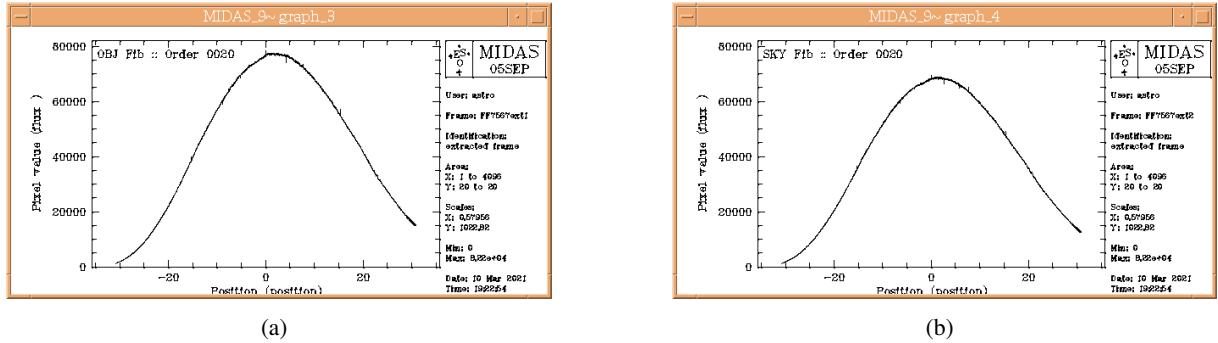

Figure 3.2: Flux in object- and sky-fiber
- D3. The measured flux in both fibers (Figure. 3.2, p. 41). If the flux in object and sky fiber is very different, it might be necessary to adjust the position of the calibration lamp.